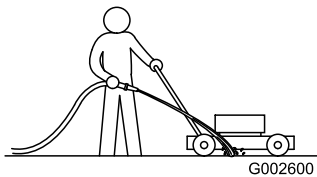

Figure 24
1. With the engine running on a flat paved surface, spray a stream of water in front of the right rear wheel (Figure 24).